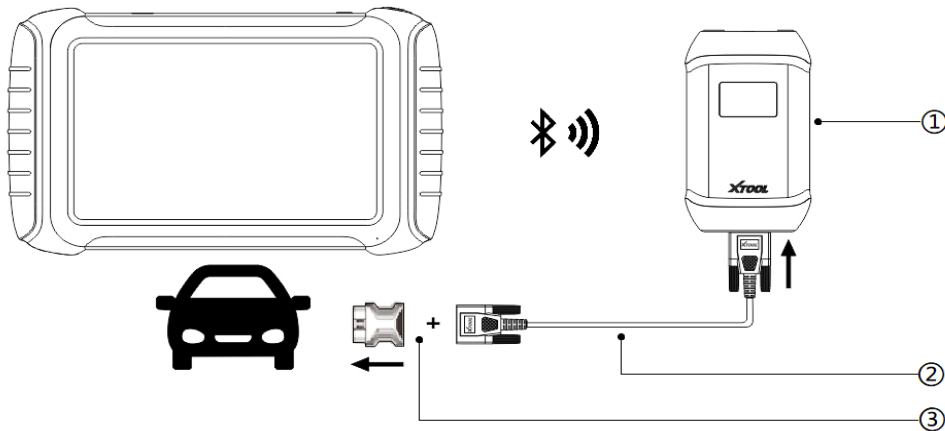
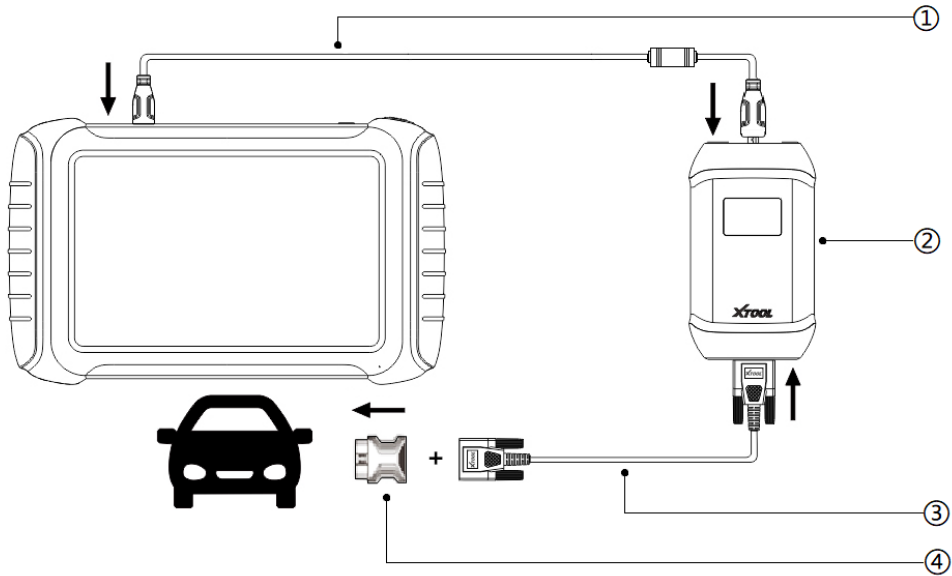

Figure 4-1 Sample of How to Connect Device to Vehicle via Bluetooth
Figure 4-2 Sample of How to Connect Device to Vehicle via Wire
2. Connect the vehicle, the VCI box, and the tablet following the diagram below (Figure 4-1 & Figure 4-2). Usually, the OBD port is located under the dashboard, inside the driver's footwell.